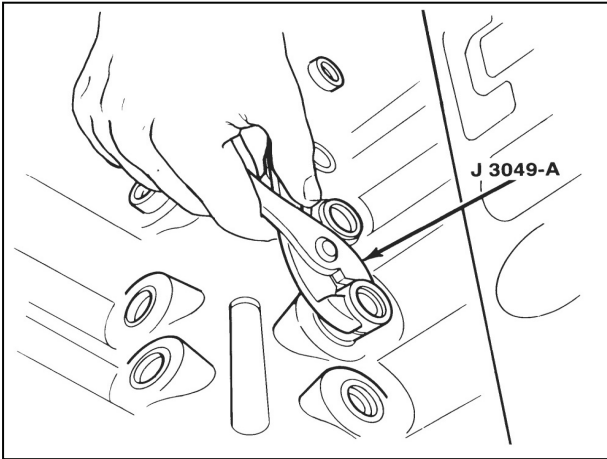

Figure 12-7 Removing Valve Lifter
- Some lifters may be stuck in their bores due to gum or varnish deposits. These lifters can be removed using either J 3049-A (figure 12-7) or J 9290-01 (figure 12-8).